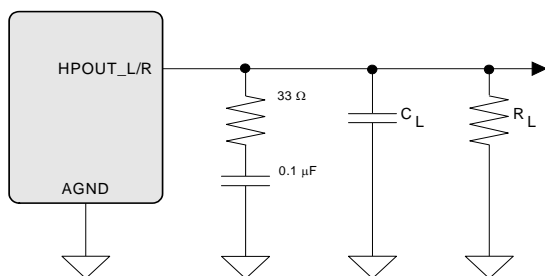
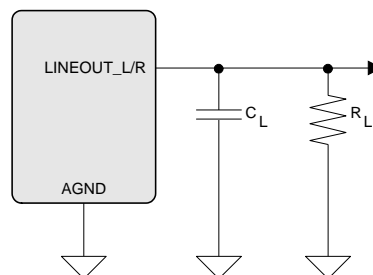

Figure 3. Output Test Load, Headphone Out
Figure 4. Output Test Load, Line Out
(Test conditions (unless otherwise specified): Input test signal is a full-scale 997 Hz sine wave; $V_D = 1.8\text{ V}$; $V_{L_HD} = V_{L_IF} = 3.3\text{ V}$; $T_A = +25^\circ\text{C}$; Measurement bandwidth is 10 Hz to 20 kHz; test load $R_L = 10\text{ k}\Omega$, $C_L = 10\text{ pF}$ for the line output and test load $R_L = 16\text{ }\Omega$, $C_L = 10\text{ pF}$ for the headphone output (see Figure 3); DAC Gain = 0 dB).
7. See Figure 3 and Figure 4. R_L and C_L reflect the recommended minimum resistance and maximum capacitance required for the internal op-amp's stability and signal integrity.